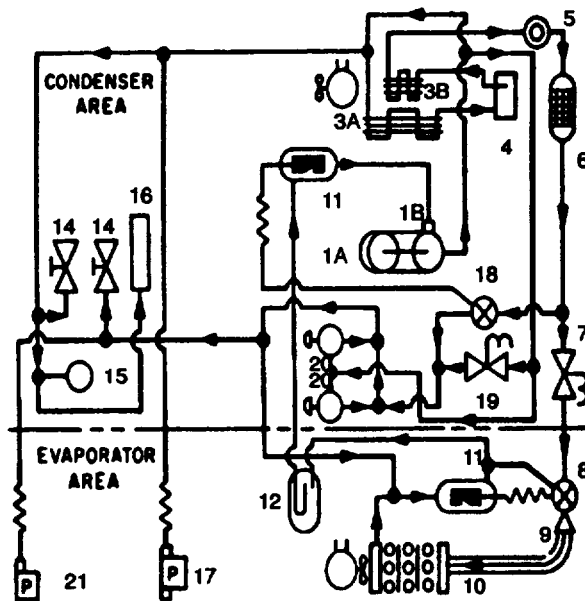

Figure 1-5. Refrigerant Flow Diagram
1.11.1 The Refrigerant Cycle. The refrigeration system removes heat from a given area. See figure 1-5. for a schematic of the refrigeration cycle.
- a. The compressor (1A) takes cold, low pressure refrigerant gas and compresses it to a high temperature, high pressure gas. This gas flows through the metal tubing to the split condenser coil (3A) and receiver (4).
- c. The liquid sight glass (5) indicates the presence of moisture and the quantity of refrigerant in the system.
- d. The drier/filter dehydrator (6) removes any moisture (water vapor) or dirt that may be carried by the liquid refrigerant.
- e. The solenoid valve (7) is controlled by the temperature selector on the control panel. This valve will shut off the flow of refrigerant to the evaporator section when the temperature in the conditioned area reaches the set point.
- f. The expansion valve (8) controls the amount and pressure of liquid refrigerant to the evaporator coil (10). The expansion valve (8) senses the temperature and pressure of the refrigerant as it leaves the evaporator coil. By use of the feeler bulb in the bulb well (11) and "external equalizer line," the valve constantly adjusts the flow of liquid refrigerant to the evaporator coil (10).
- g. As the high pressure liquid refrigerant leaves the expansion valve (8), it enters the evaporator coil (10). As the liquid enters the coil, due to the size difference between the coil and the tubing, the pressure is suddenly decreased. As the pressure decreases, the liquid refrigerant "flashes" to a gas. The evaporator blower circulates the warm air from the conditioned space over and through the evaporator coil. Liquid absorbs heat when it changes from a liquid to a gas. As the air from the conditioned spaces comes in contact with the evaporator coil (10), the air is cooled.
- h. The accumulator (12) holds any liquid refrigerant which did not change to a gas in the evaporator. Heat in the evaporator section will boil this liquid to a gas before entering the compressor.
- i. To prevent compressor damage during start-up, the solenoid valve (19) is normally open to equalize pressure on both sides of the compressor.